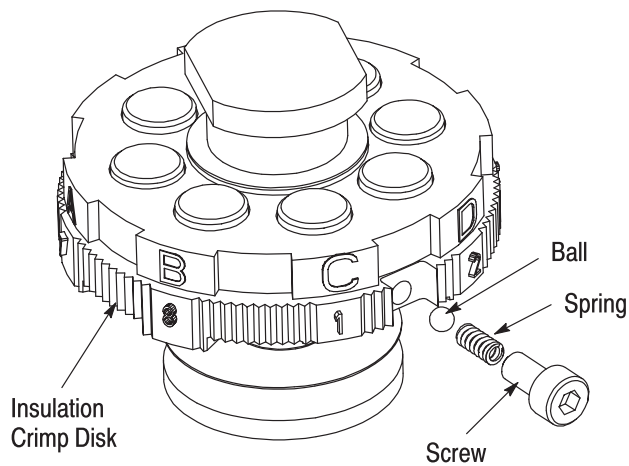

Figure 6
5. Holding the ram post and insulation adjustment disks as a unit in your hands, remove the screw from the side of the insulation crimp disk and carefully remove the spring and ball. See Figure 6.